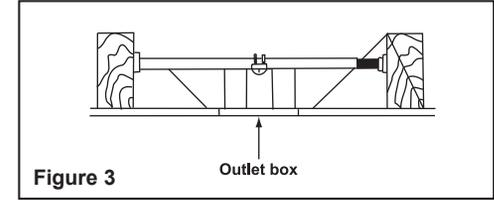

Figure 3
To hang your fan where there is an existing fixture but no ceiling joist, you may need an installation hanger bar as shown in Figure 3 (available at your Progress Lighting Retailer).
**Step 1.** Check existing outlet box (not included) to ensure it is securely fastened to at least two points in a structural ceiling member and can support the full weight of the fan. Once verified, install ceiling bracket assembly to the outlet box using the screws and washers provided with the outlet box (Figure 3).